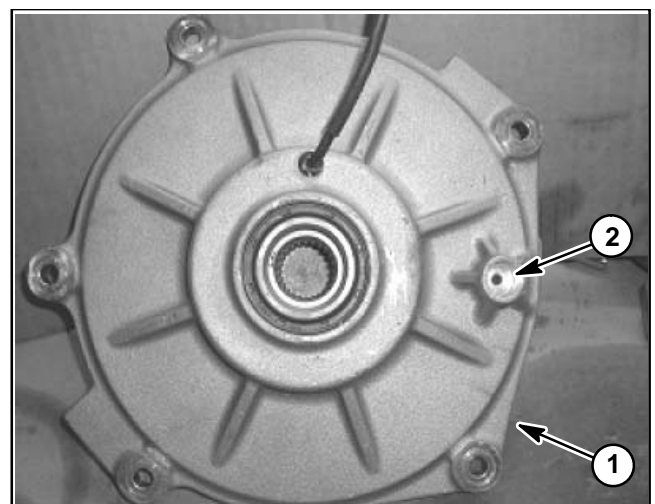

Figure 29
A. Locate backlash adjustment set screw inside round boss on cover plate (Fig. 29).
D. Continue to slowly turn the set screw counter-clockwise until the pinion gear shaft can freely rotate six (6) times (one (1) revolution of the ring gear) without any tight spots. This proper backlash should be achieved by the time that the set screw has been turned counter-clockwise one (1) complete rotation.